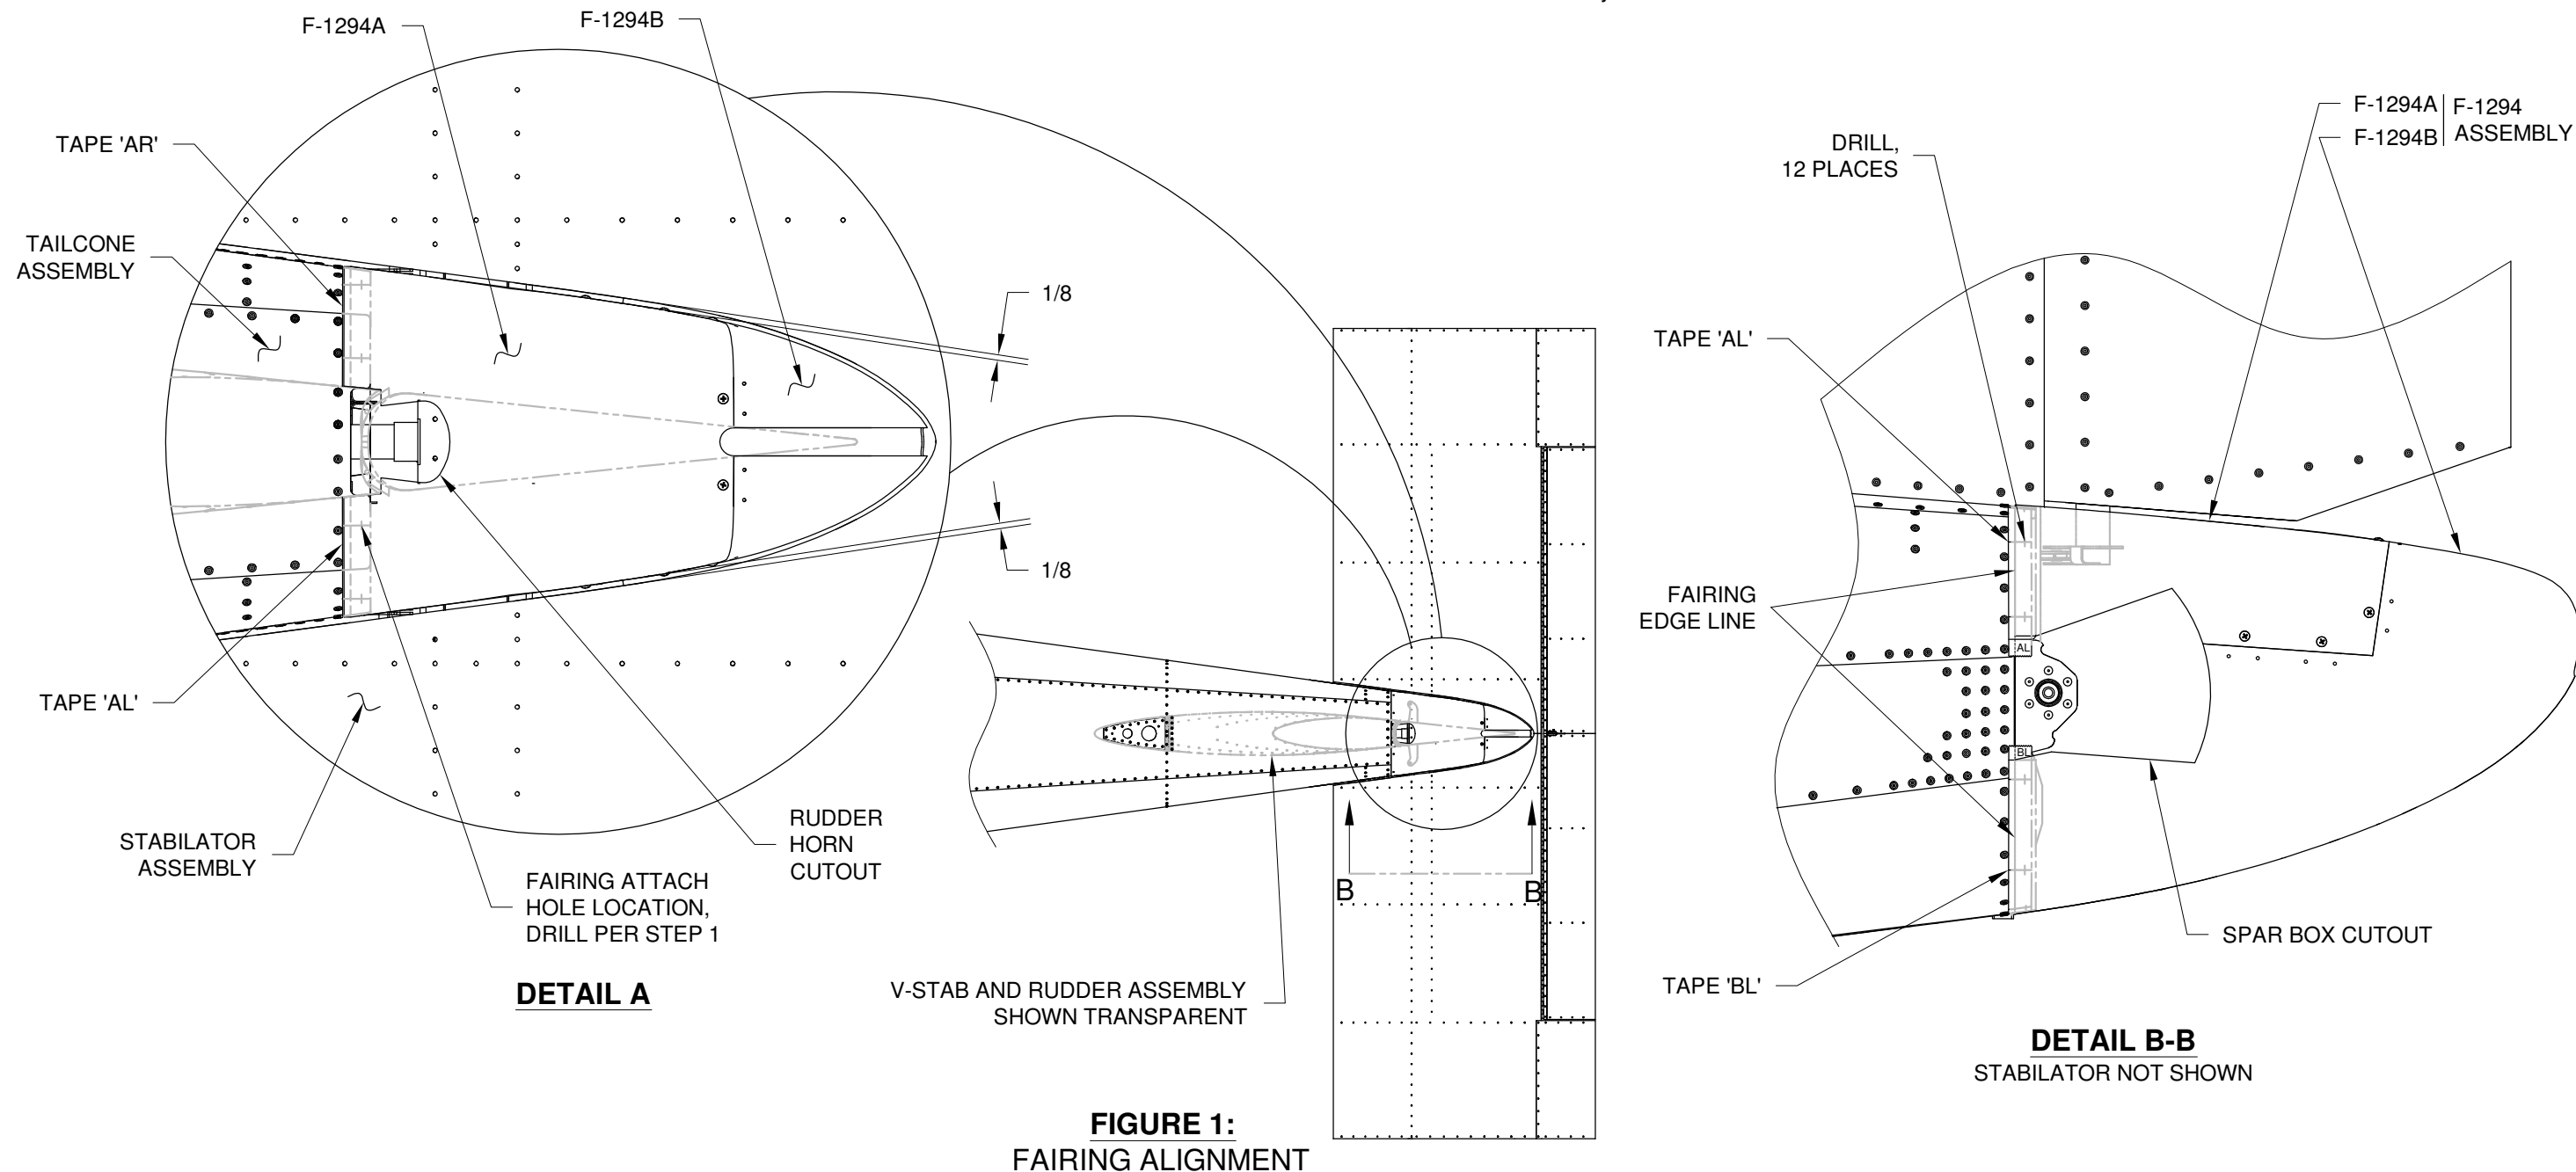

FIGURE 1:
Step 8: Check the clearance between the F-1294 Assembly spar box cutout and the Stabilator Assembly spar box throughout the full travel of the Stabilator Assembly as shown in Figure 1, Detail B-B. Check the clearance between the F-1294 Assembly rudder horn cutout and the rudder horn throughout the full travel of the Rudder Assembly as shown in Figure 1, Detail A. Mark, and trim any areas of interference for at least 1/8 inch of clearance to the F-1294 Assembly.